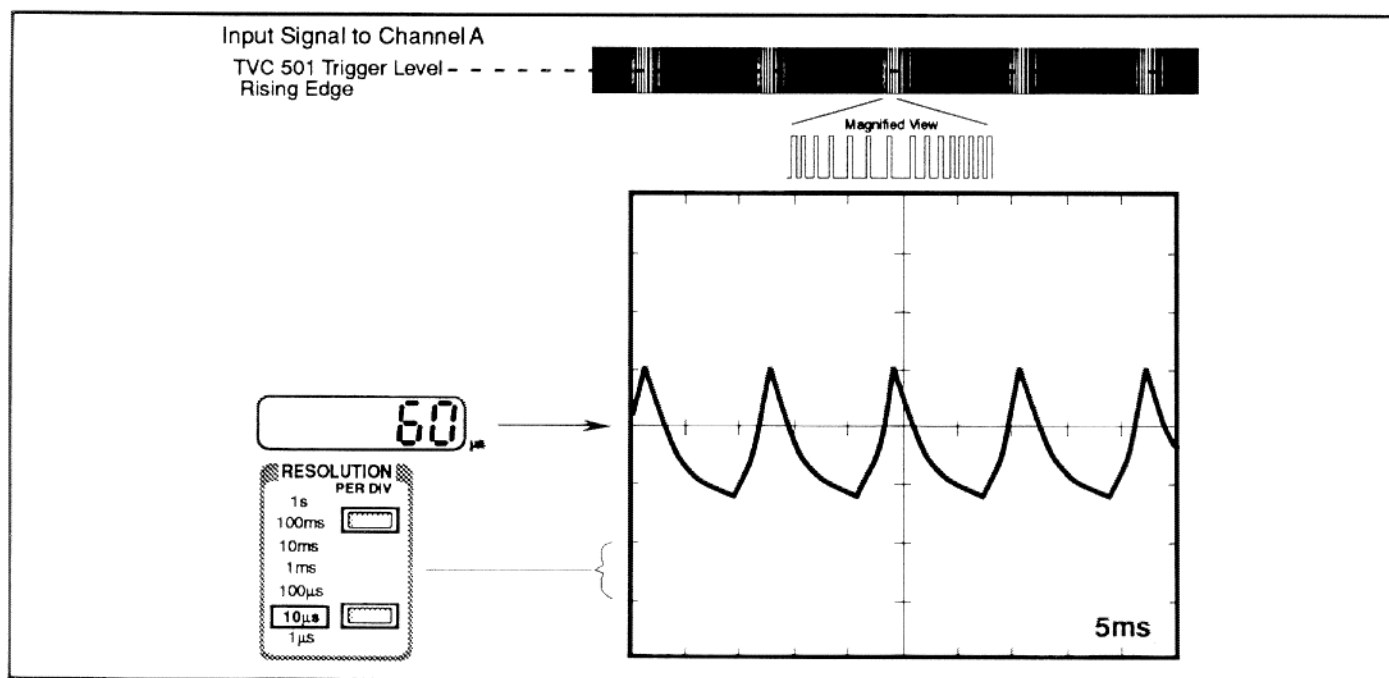

Figure 4-13. Period-to-Voltage Converted Pulses. The true nature of the modulated signal is revealed.
8. To automatically establish an offset and resolution value, press **AUTO**. The offset should be about $60\ \mu\text{s}$ and the resolution per div should be about $10\ \mu\text{s}$ (see the TVC 501 readout in Figure 4-13).
9. Set the horizontal time base of the oscilloscope to $5\ \text{ms}/\text{div}$. The resulting waveform should look like the oscilloscope display in Figure 4-13.